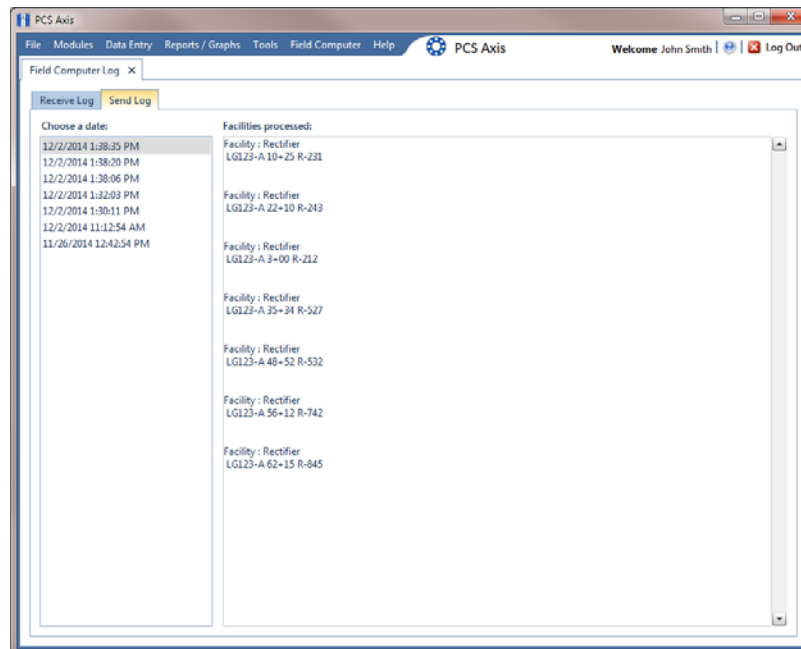

Figure 13-42. Field Computer Log / Send Log
- 2 Click the **Send Log** tab to view facility records sent to the Allegro (Figure 13-42).